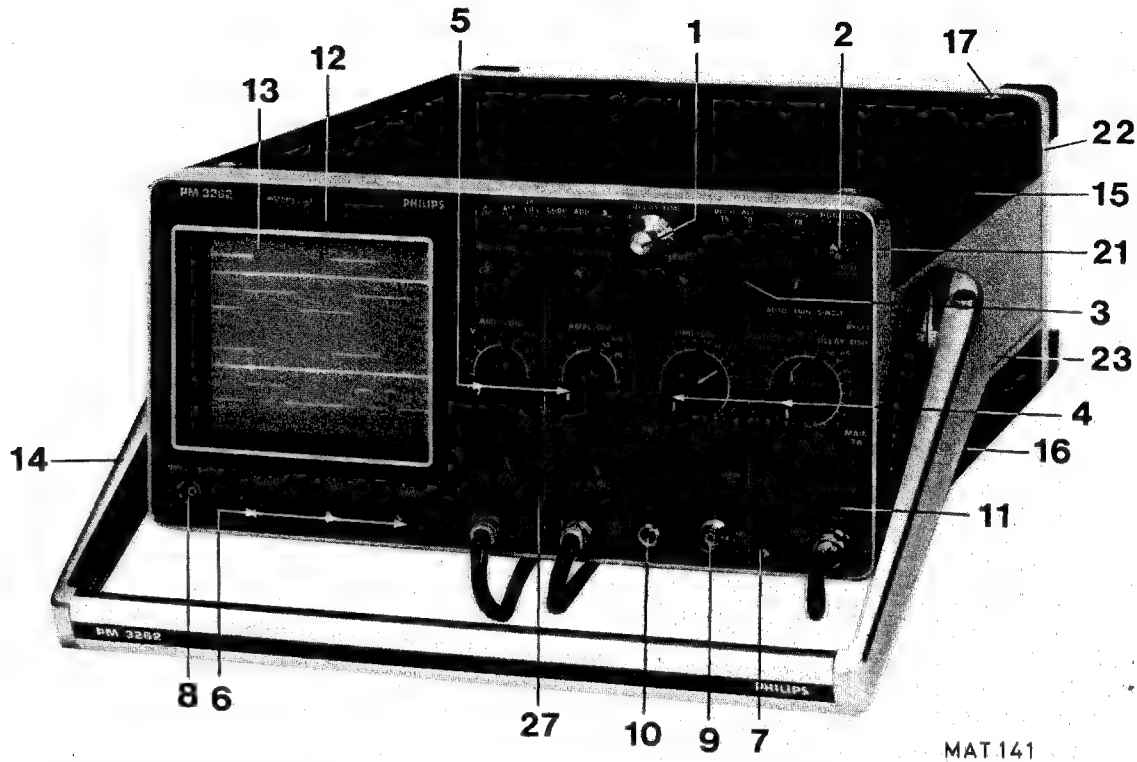

Fig. 3.37. Front view showing itemnumbers
3.8.1. Mechanical parts (see Fig. 3.37. and 3.38.)